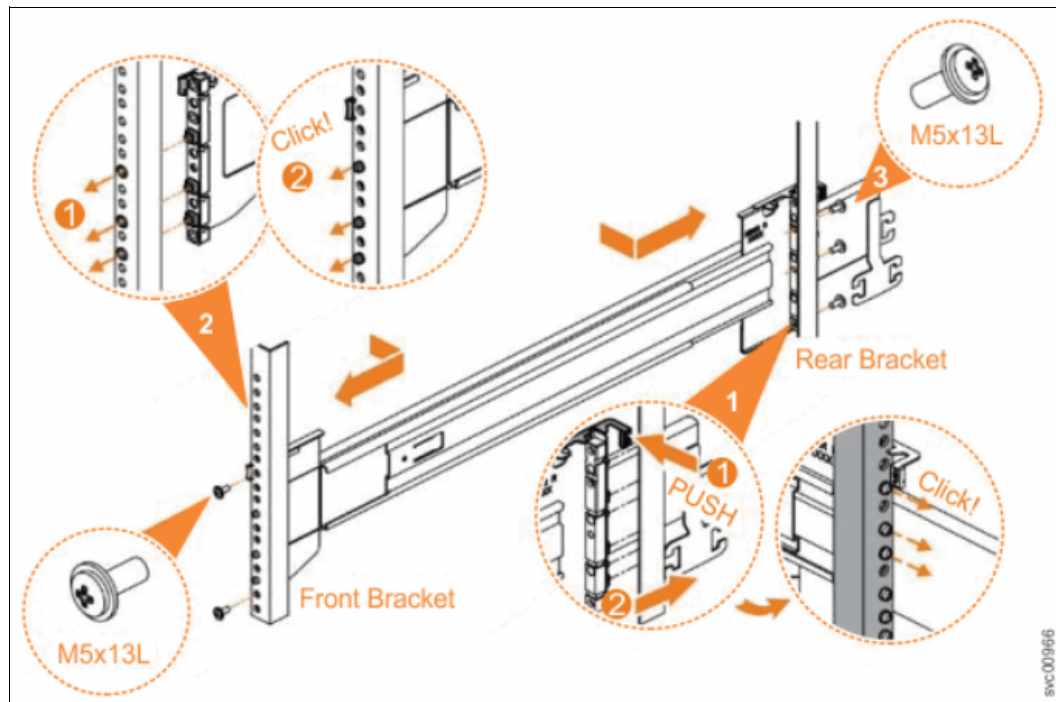

Figure 6-11 Installing the outer rail members in the rack
5. Use the M5xL13 screws to install the outer rail member and bracket assembly in the rack, as shown in Figure 6-11.